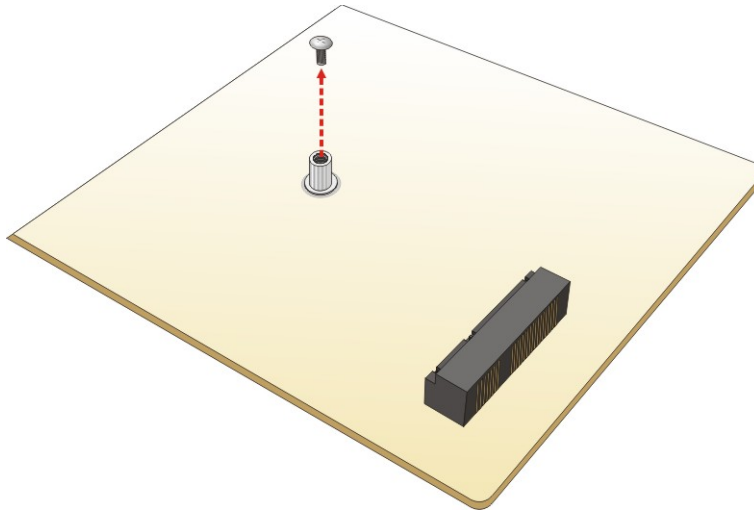

Figure 4-2: Remove the Retention Screw for the PCIe Mini Card
Step 2: **Remove the retention screw.** Remove the retention screw secured on the motherboard as shown in **Figure 4-2**.